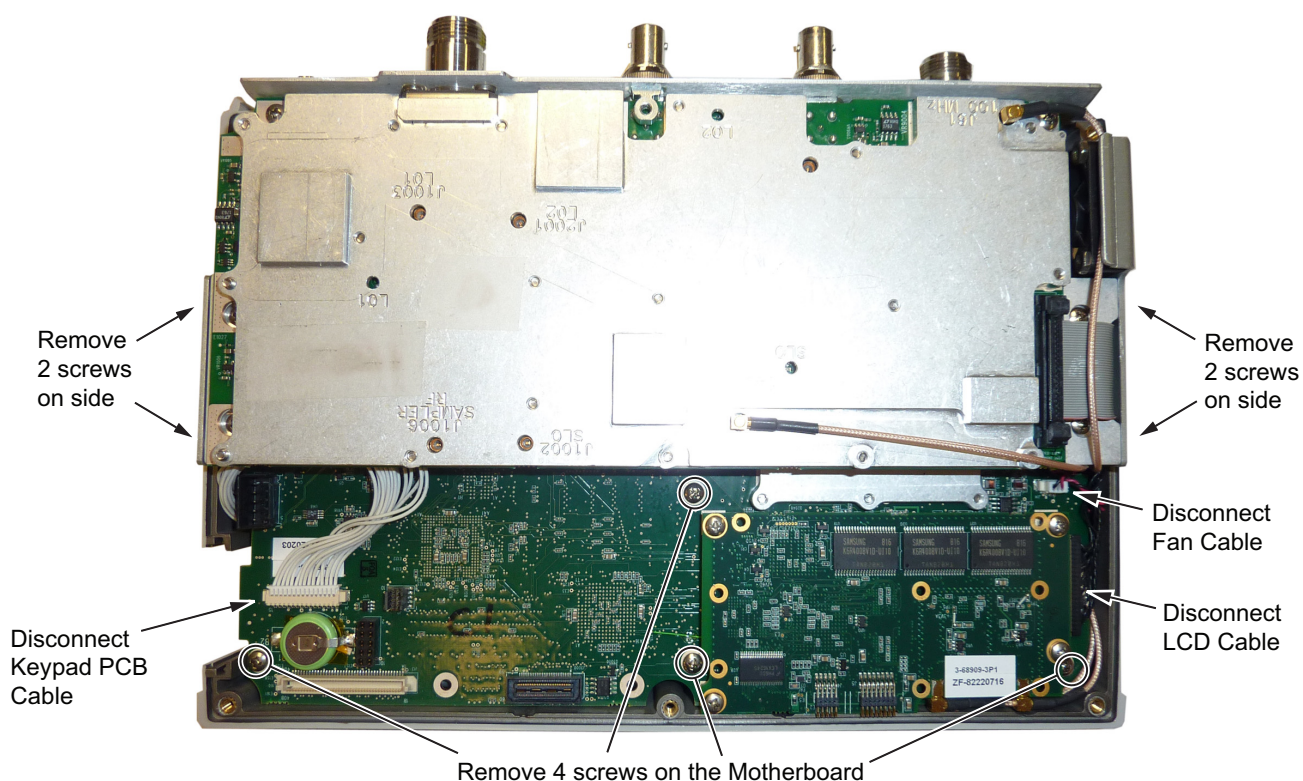

Figure 7-4. Removing the PCB Assemblies out of the Case
4. Use a Phillips screwdriver to remove the 8 screws securing the Assemblies to the Case (Figure 7-4).